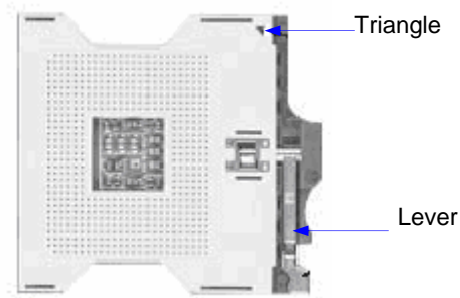

Figure 5: mPGA604 Socket
2. Insert the CPU in the socket, making sure that pin 1 of the CPU aligns with pin 1 of the socket (both corners are marked with a triangle - see Figure 5).